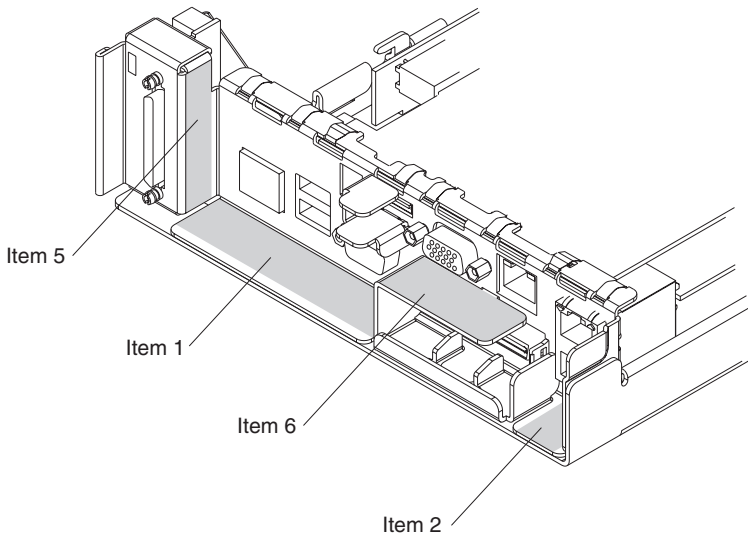

Figure 28. Applying labels to the rear of the server
1. From the label palette, remove the labels identified as Item 1, Item 2, Item 5, and Item 6, and apply them as indicated in Figure 28. Not all labels on the label palette will be needed.